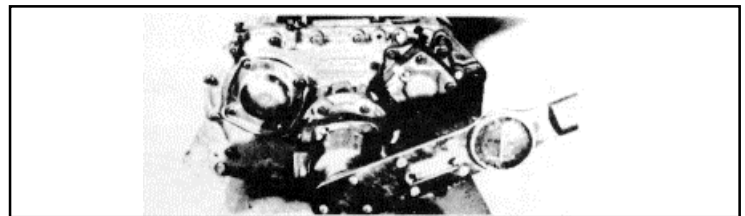

Fig. 6
(7) Universal Joint Companion Flange: (See Fig. 6). Pull the companion flange tightly into place with the mainshaft nut, using 450-500 ft-lbs of torque. Make sure the speedometer gear has been installed on yoke. If a speedometer gear is not used, a replacement spacer of the same width must be used. Failure to pull the yoke or flange tightly into place will permit the shaft to move axially with resultant damage to rear bearing. Fig. 6 Universal Joint Companion Flange